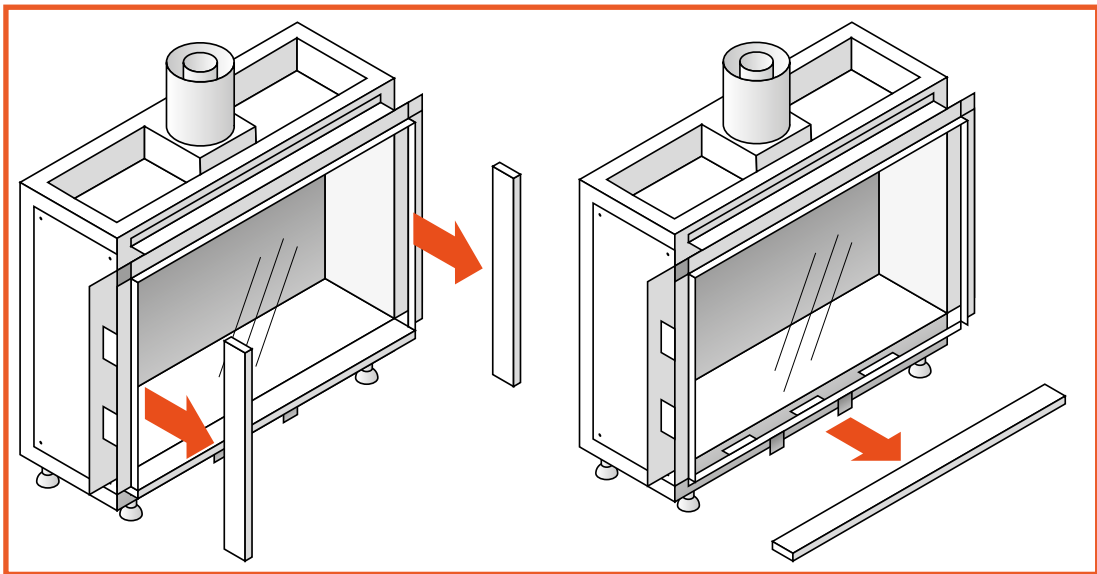

Figure 10.4 & 10.5 - Removing side and lower trims
- Remove both the side trims and bottom trim. They are held by magnet snappers, **Figure 10.4** & **10.5**.